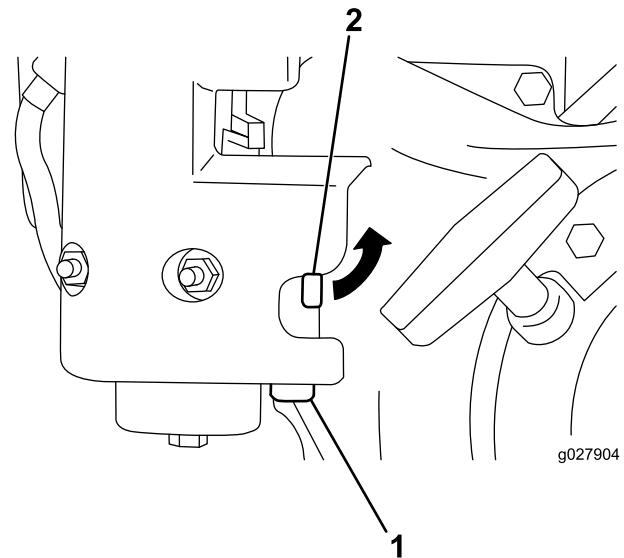

Figure 28
1. Close the fuel-shutoff valve and unscrew the sediment bowl from the carburetor body (Figure 28).